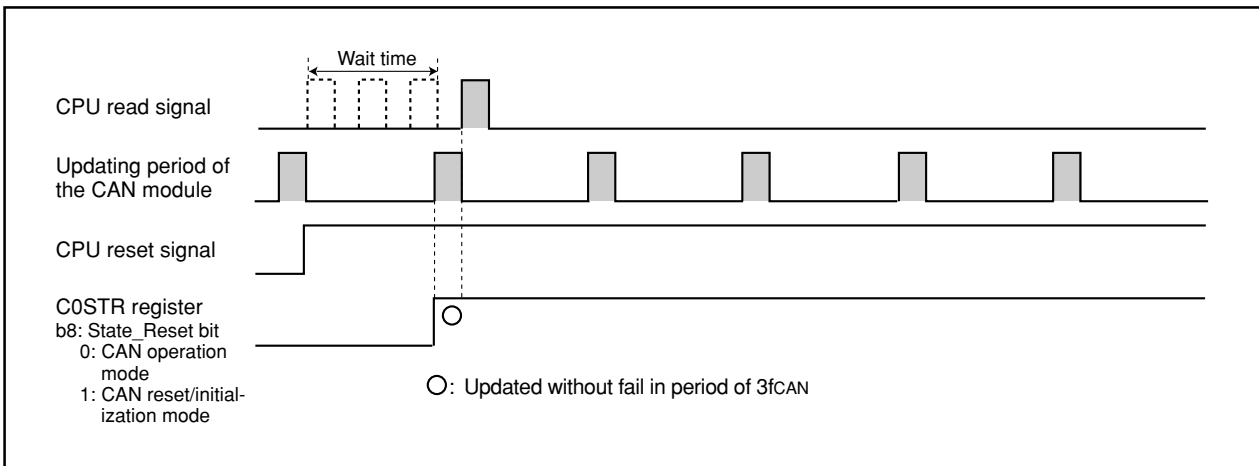

Figure 1.11.2 With a Wait Time of 3fCAN Before CPU Read
- (1) There should be a wait time of  $3f_{CAN}$  or longer (see Table 1.11.1) before the CPU reads the C0STR register. (See Figure 1.11.2.)